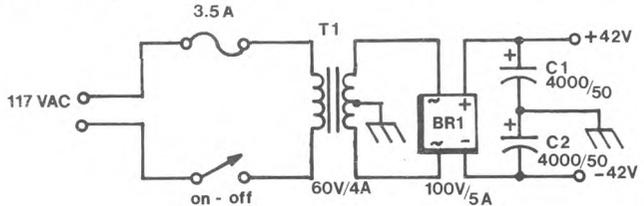

Fig.3
- Figure 3 should have the mode switch in the DELAY position.
Fig. 3 should show a 5V bias voltage into the CV input of the 4730.
**+42V Power Supply (Fig. 3)**